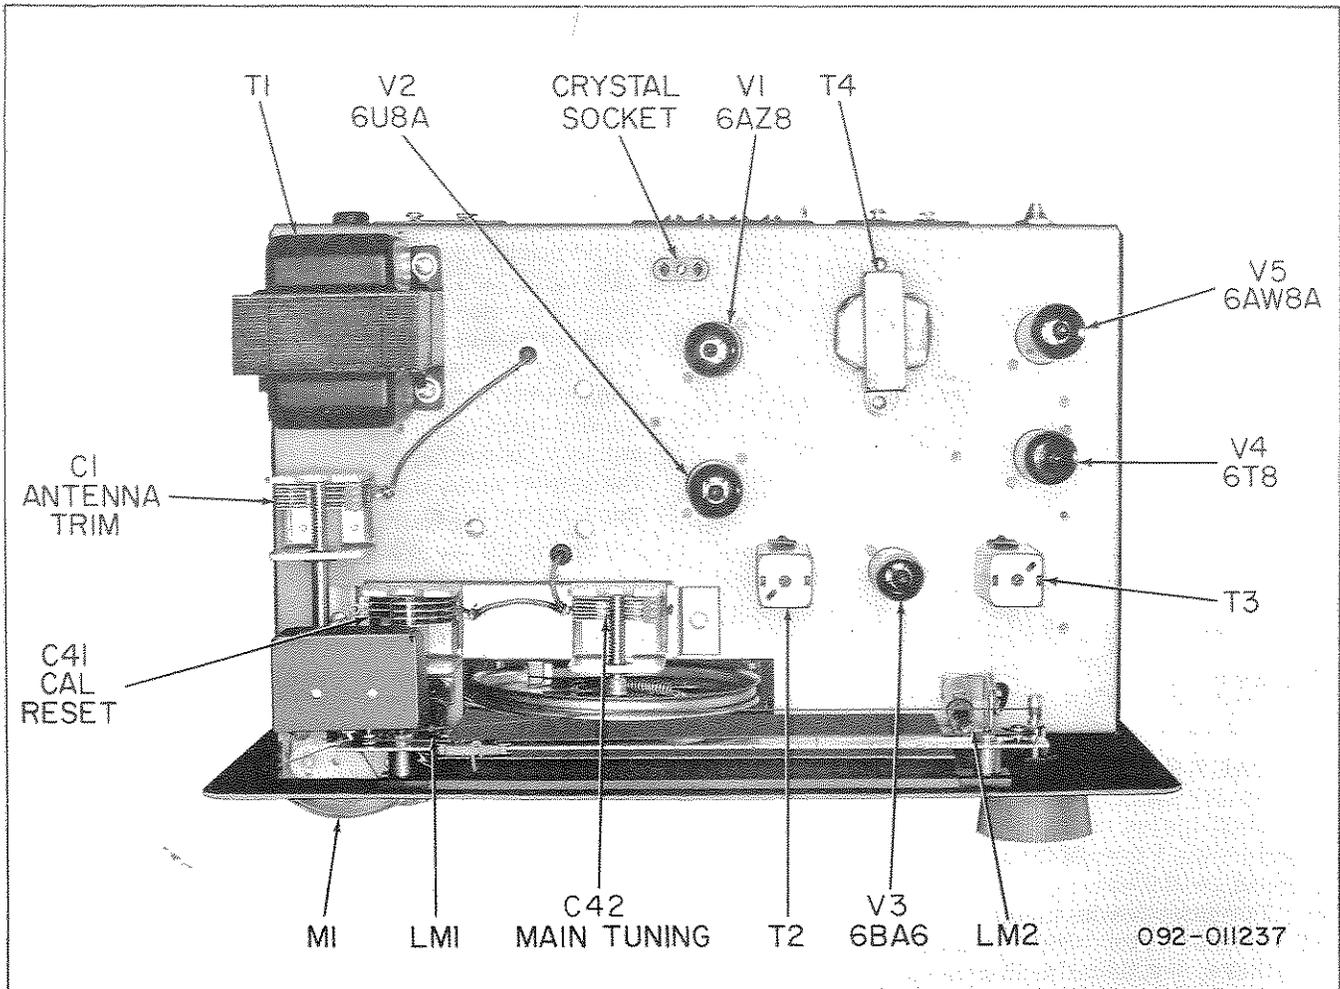

Figure 8. Top View Alignments.
A special crystal oscillator circuit (with crystal) has been incorporated into the receiver to enable the operator to accurately calibrate each band. A 3.5-MC crystal inserted into the crystal socket (see fig. 8) provides a signal that will zero-beat with the local oscillator to provide a calibration marker at the low frequency edge of the 80, 40, 20, 15 and 10 meter bands and at 52.5 MC on the 6 meter band. For calibration of the receiver preset the controls as indicated:
To gain access to the tubes and dial lamps, remove the chassis from the cabinet (see para. 6-2). The location of the tubes and dial lamps are shown in figure 8.
2. Insert 1650 KC crystal in crystal socket (see fig. 8).